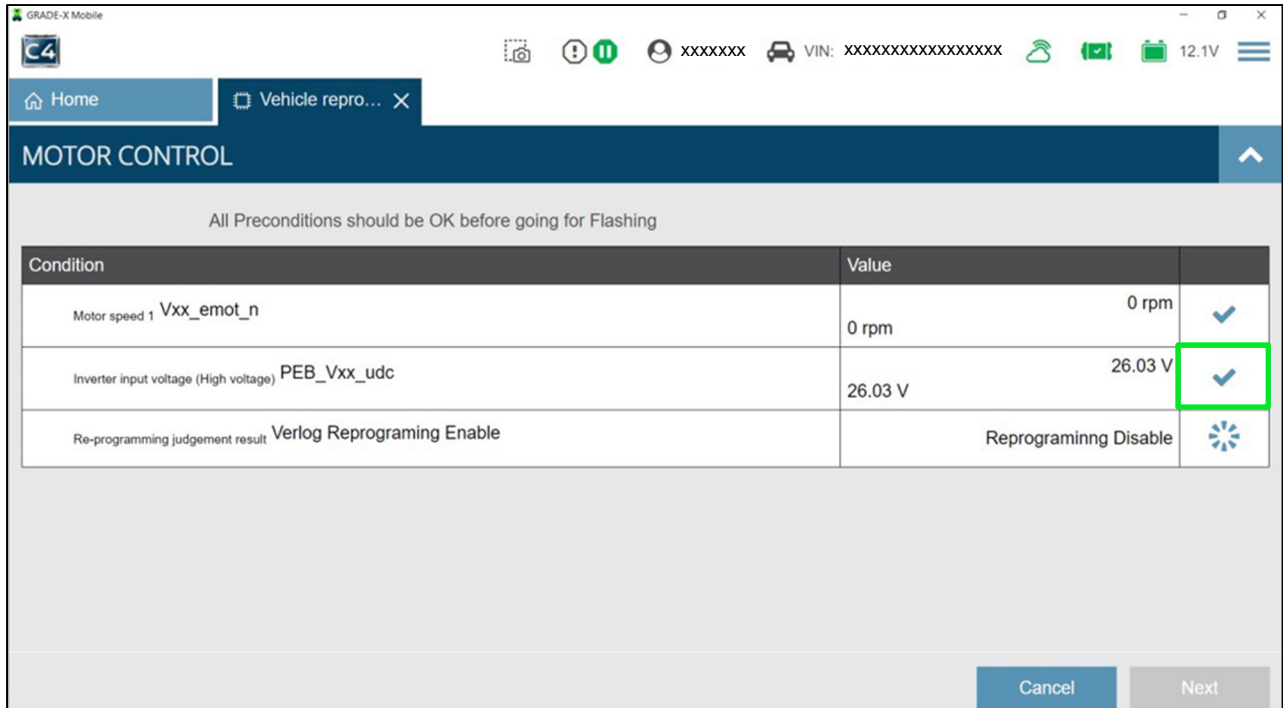

Figure 14
20. Once the **Inverter input voltage (High voltage) PEB\_Vxx\_udc** shows the check mark, as shown in Figure 14, press the power switch one time to turn the ignition to ACC mode.